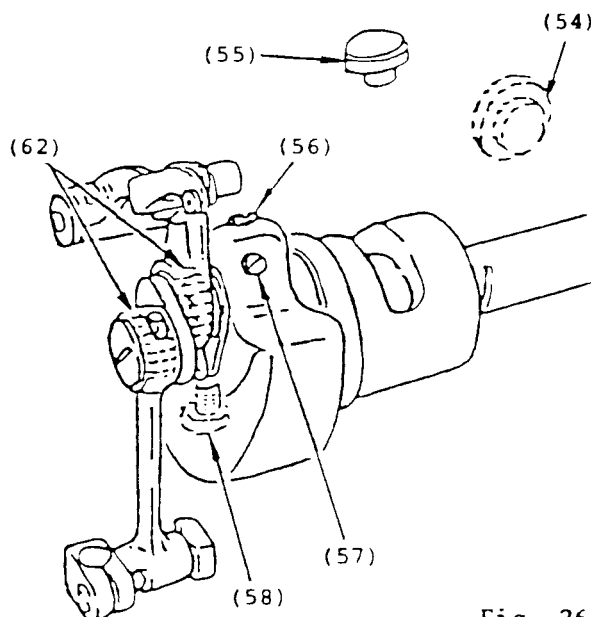

Fig. 26
1. Remove face plate, arm plug screw (large) (54) and arm plug screw (small) (55) from machine.
3. Turn machine pulley as required to reach screw (56), Fig. 26, in needle bar crank through hole left by removal of plug (54). Loosen set screw (56).
4. Turn machine pulley, as required, and through the same hole loosen set screw (57).
CAUTION: DO NOT DISTURB the smaller hexagon head position screw (58), Fig. 26, which holds the needle bar crank at its correct position on the horizontal arm shaft.
2. Turn machine pulley as required to make set screw (57) accessible through hole at (54), Fig. 26, in rear of machine head.
3. Assemble thread take-up lever link assembly, including parts (60), (61), (62), (63) and (64) to needle bar crank so that set screw (57) seats squarely on the flat provided for it on thread take-up crank (63), Fig. 26.
4. Insert screwdriver through arm plug screw hole (54) and securely tighten set screw (57).
5. Test for side play by pushing take-up lever (60) gently left and right; there should be 0.025 to 0.050 mm side shake between lever and wearing plate (64).
7. Slip the upper end of the take-up lever (60) through the slot provided for it in the head of the machine.
8. Turn machine pulley as required to make set screw (56) accessible through arm plug screw hole (54), Fig. 26, in rear of machine head.
9. Insert screwdriver through this hole (54) and securely tighten set screw (56).
10. Insert a fine flexible guide wire (piano wire) down through arm plug screw hole (55) and from right to left (machine pulley end to head end) through hole provided in arm casting for take-up lever link hinge stud.
11. Insert take-up lever link hinge stud (66) and its oil wick (67) through take-up lever link (65). Hook the ends of the oil wick (67) leading out of the stud to the guide wire, then insert stud (66) into its hole in the arm casting while pulling the oil wick leaders out through the arm plug screw hole (55) taking care not to pull it loose from the stud.
1. Remove top arm plug screw (55), Fig. 26.